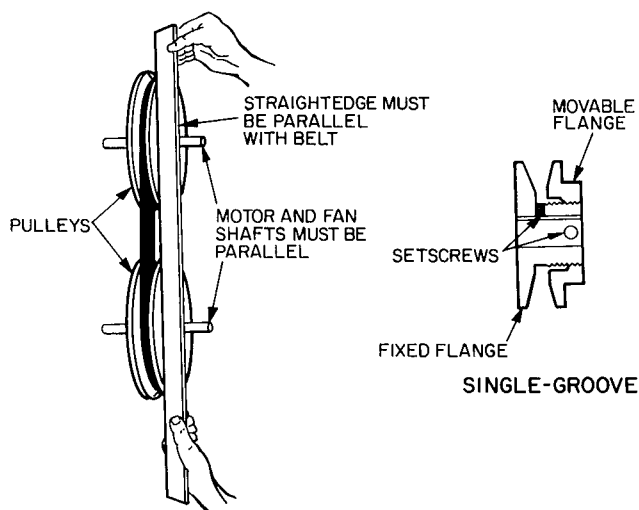

Fig. 27 — Evaporator-Fan Pulley Adjustment
3. Loosen movable pulley flange setscrew (see Fig. 27).